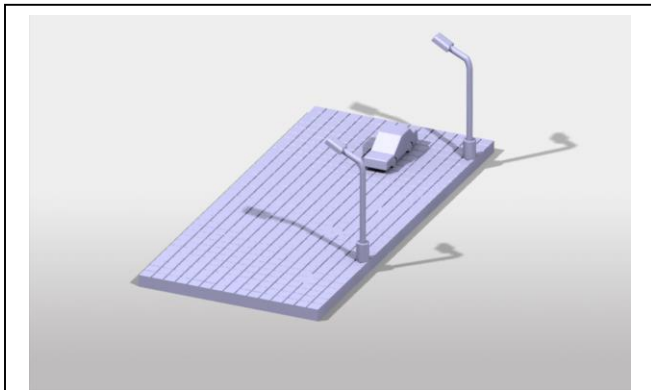

Fig. 2.
1) FIG. 2: Figure shows isometric view of MegProp car vehicle resting stationary over road. Each box represents an electromagnet.